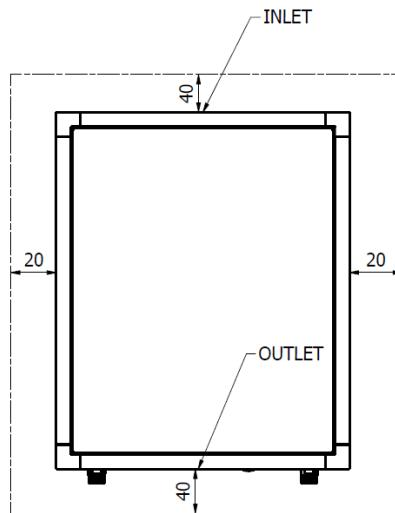
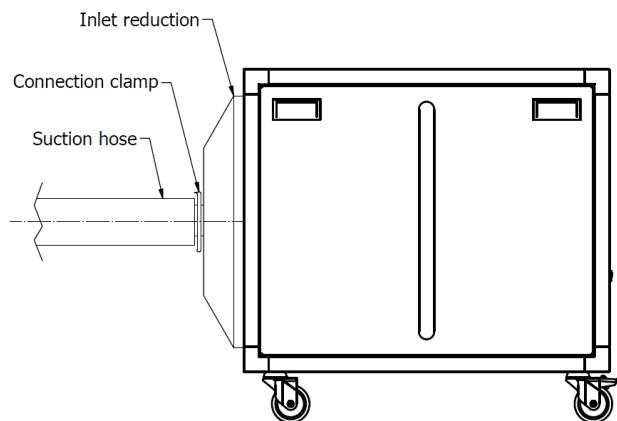

Fig.2. Minimum allowed distance from walls (top view of the device)
Fig. 3. Using the device as a local extraction
• The device should be placed on wheels in the room or in a walkway at the appropriate distance from the walls as shown in Fig. 2. The air purifier should not be placed on its side or in any other position. After using an appropriate stub and a ventilation duct, the device can be used as a local exhaust (Fig. 3).